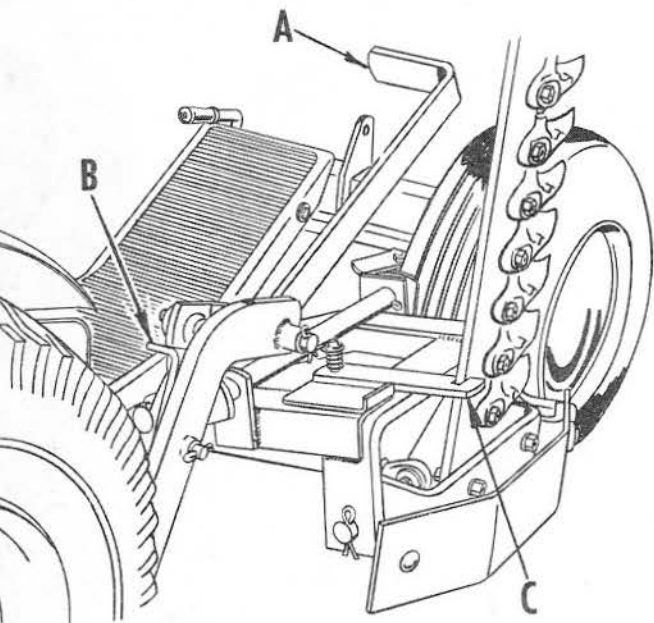

FIG. 10
Stop tractor engine. Depress on foot lift lever (A) until latch bracket (B) can be positioned as shown in Fig. 10. Secure bar in upright position with transport strap (C).